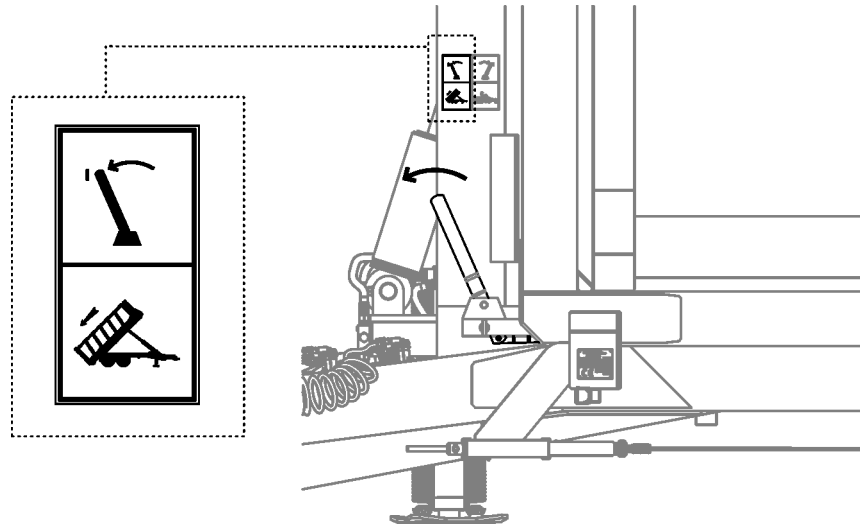

FIG. 21. POSITION OF THE LEVER FOR CONTAINER UNLOADING
- Set the control lever to I (Fig. 21).